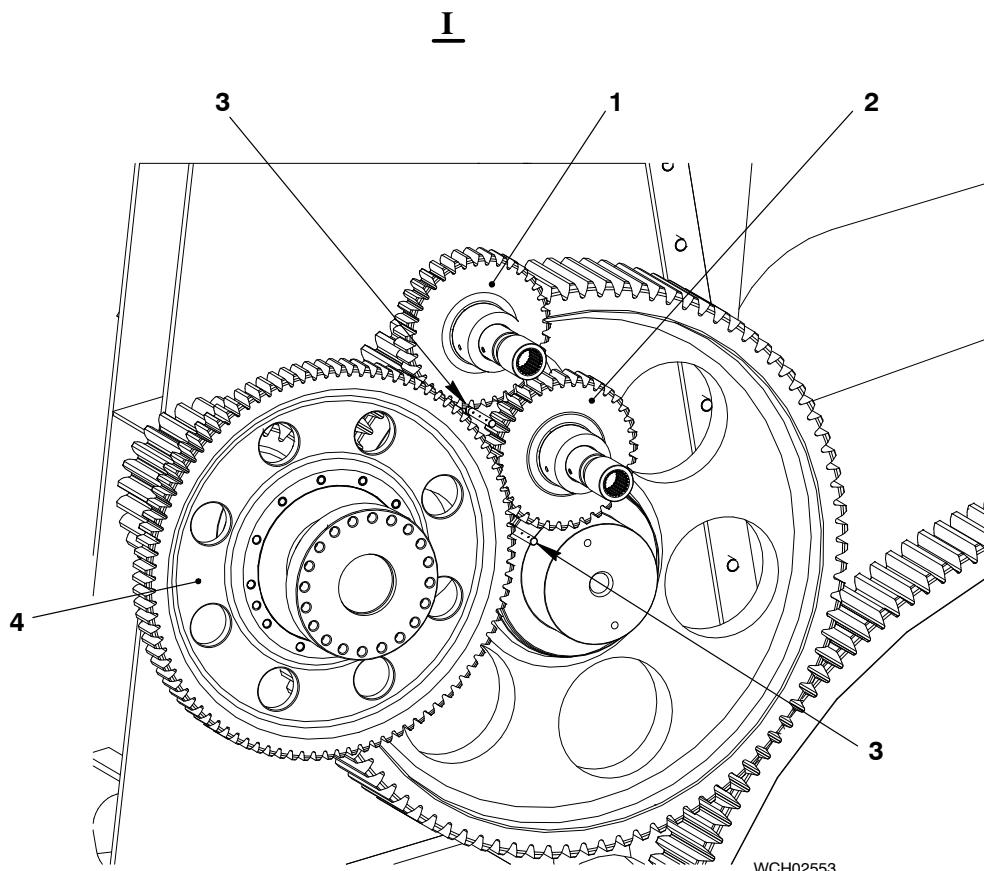

Fig. 2: View of Gear Wheels
For View I see Fig. 2
The intermediate wheel (3, Fig. 2) operates the gear wheels (1) and (2) for the servo oil pumps. The camshaft of the intermediate wheel (4) also operates the fuel pumps.